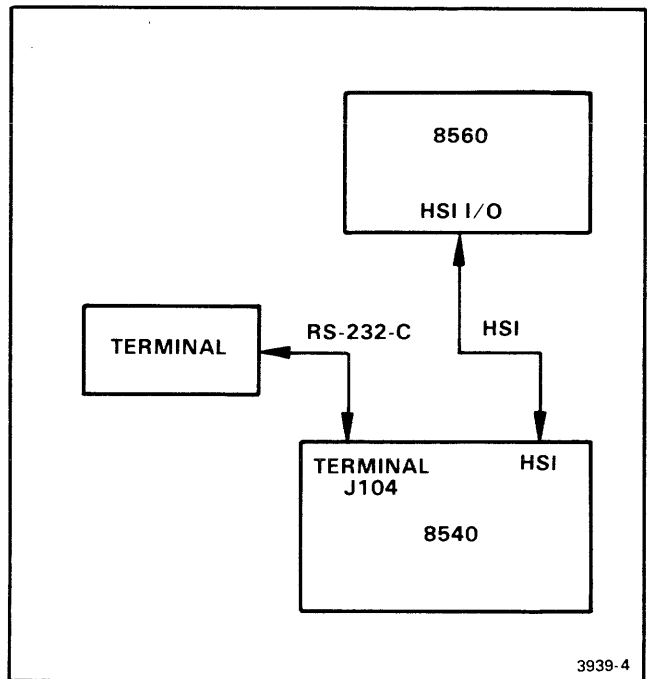

Fig. 2-1. Hardware configuration for 8540/8560 interface.
The 8540 is connected to the 8560 by an HSI cable. The system terminal is connected to the 8540 by an RS-232-C cable. Figure 2-1 shows how the various units are connected together.
**Procedure:** (Connect the cables as shown in Fig. 2-1.) (Start up the 8540.)